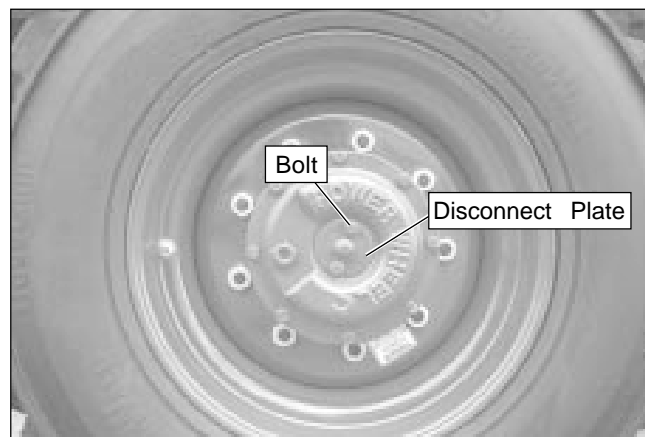

Figure 9.3 – Drive Wheel
6. At each drive wheel, remove the two bolts from the disconnect plate (refer to Figure 9.3). Turn the plate over so the nipple points inward. Reinstall the two bolts.